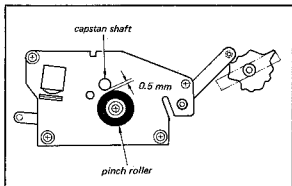

Fig. 4-25. Capstan deck adjustment
- Set the Function Lever to **PAUSE**. Make sure that the clearance between the Capstan Shaft and the Pinch Roller is more than 0.5 mm. See Fig. 4-25. If necessary, recheck Step 1.